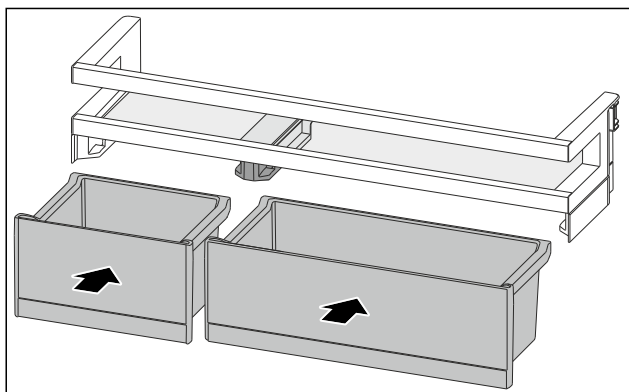

Fig. 91
- ▶ Insert the VarioBoxes in reverse order. (see Fig. 91)